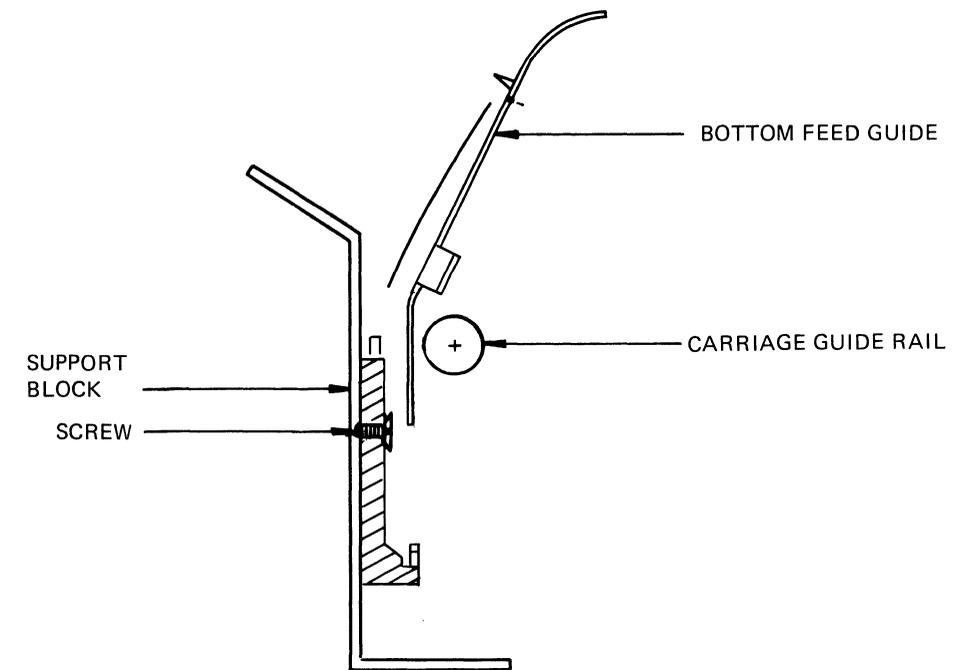

Figure 4-16 Support Block Installation for the Bottom Feed Guide (Side View)
- g. Install each support block to the frame of the Spinwriter with a screw (see Figure 4-16). Be careful not to damage the wire rope.